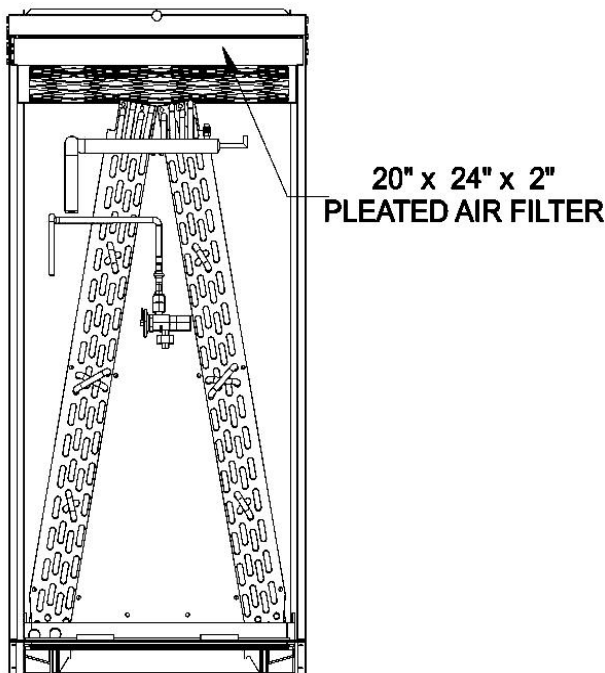

Figure 5: Coil Cabinet Top Return Pleated Air Filter Location.
6. Slide the air filter into the filter rack at the top of the coil cabinet as shown in Figure 5.